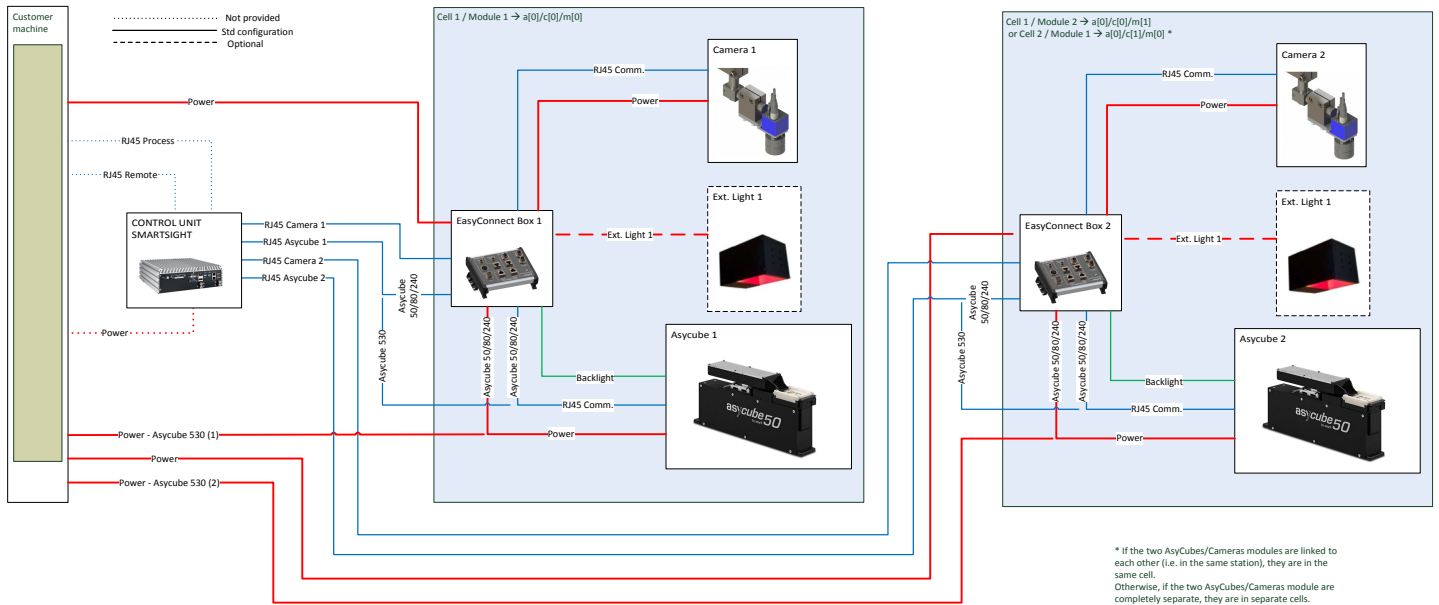

Figure 2-8: General diagram of double basic configuration
- Double basic configuration (Figure 2-8)